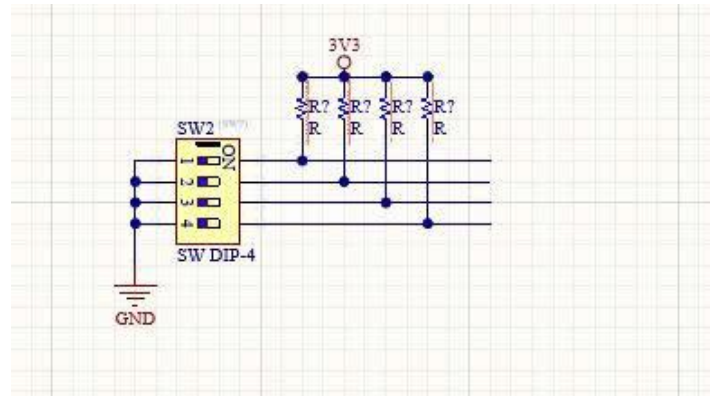

Figure 1.4: Our switches
6.1.2. In Figure 1.4, what is the voltage of SW1 when slide switch 1 is ON? and is OFF?